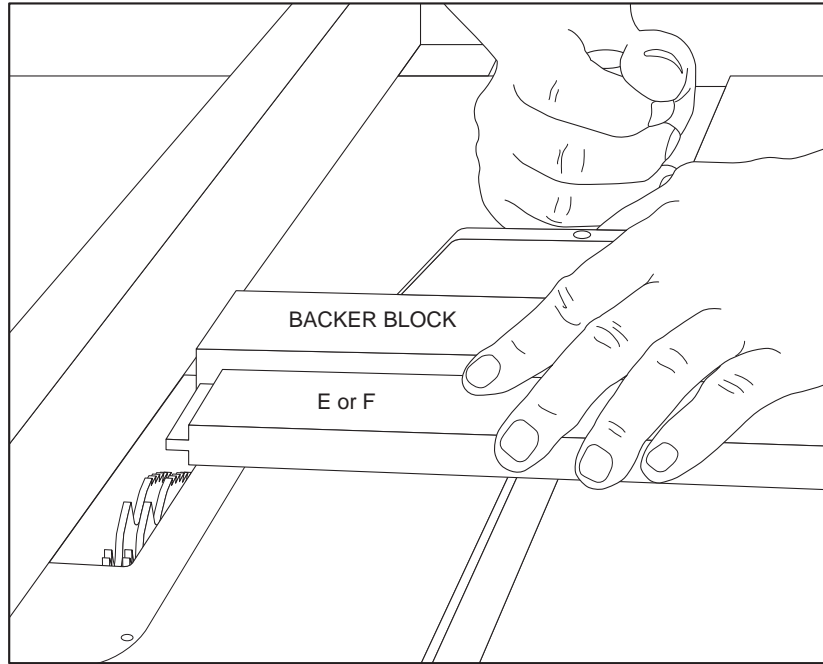

FIG 8. IT TAKES SEVERAL CLAMPS TO PROPERLY CLAMP THE FRAME TOGETHER IN ORDER TO ENSURE IT'S SQUARE AND FLAT.
11. Assemble the panel frame from parts D, E and F. First, dry-fit all the parts together and lightly clamp them, then check that the frame is square by measuring across the diagonals. Then take it all apart. Use glue only on the tenons and slip the panels into their respective grooves, then clamp the assembly together as shown in Fig. 8.